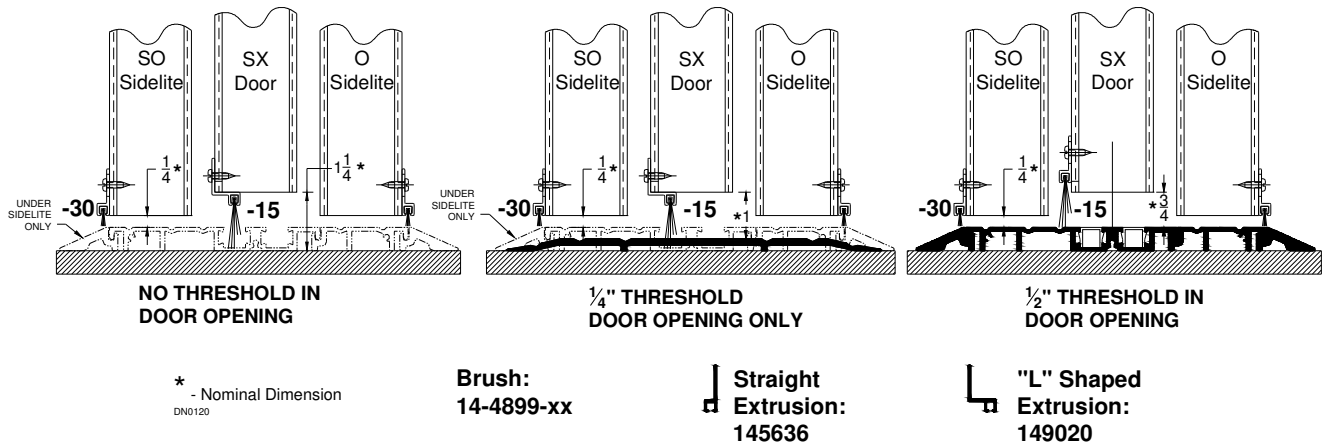

Figure 41
7. **Full Open and Pocketed units only**– Locate straight extrusion on outside face of swing panel. Shorter brush (1/4" tall) should be installed in swing panel extrusion (See Figure 41). There should not be any excess brush on this weathering. Mark mounting holes and install panel weathering in the same manner as door weathering.
8. **Pocketed units only**—Fixed panel on Pocketed units can be sealed with brush for added weathering protection. It can be installed on the interior of building or inside pocket in same manner as before (See Figure 41)